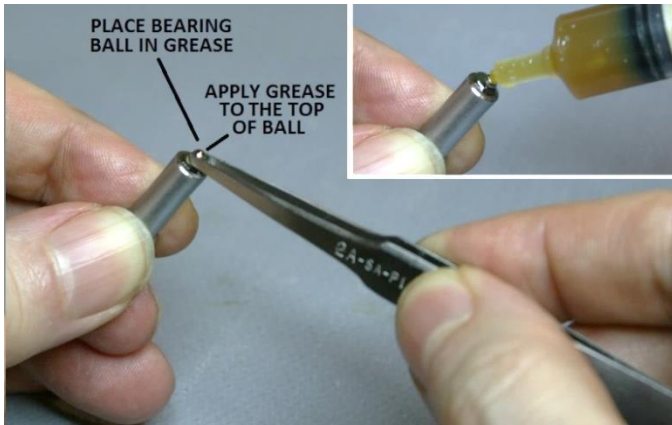

Figure 88 – Place ball into greased end of tension screw
Carefully place the 3/32" bearing ball (item 1 of Appendix 1) into the greased depression in the end of the tension screw. Apply a bit of grease to the top of the ball (see Figure 88).